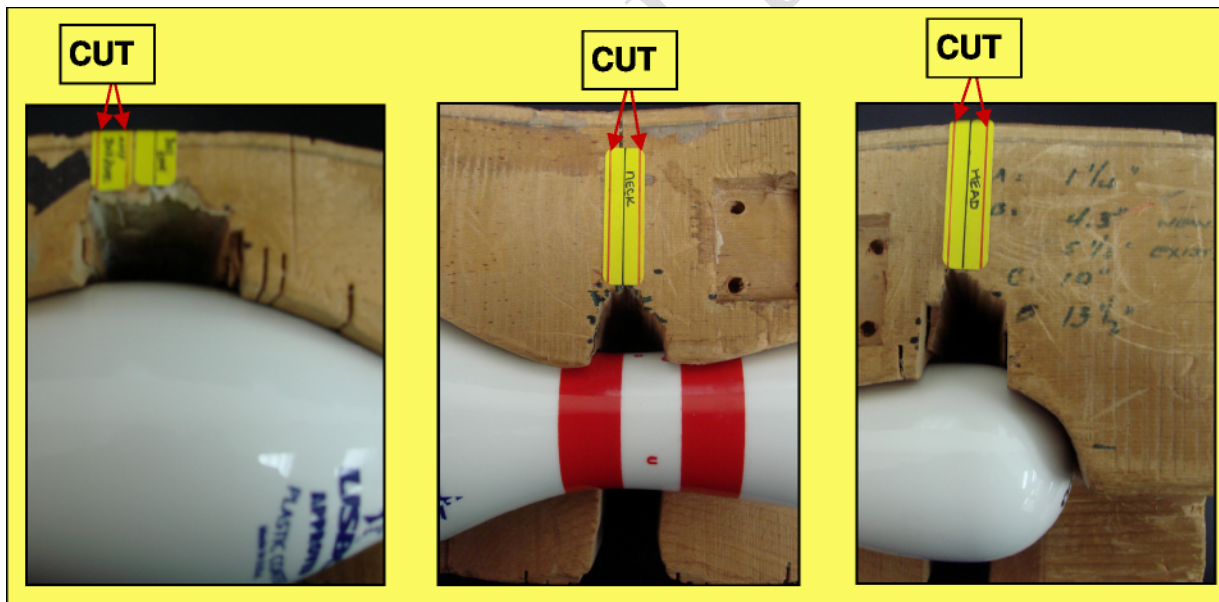

Figure 1 – The 3 slices that are cut using this side of the jig. The red lines indicate where the cuts are made to obtain slices of the bowling pin.
3. Set the jig so the labels for the head of the bowling pin, neck and ball zone are on the top. Cut the bowling pin on the band saw using the red lines as the designated cut lines to obtain the proper slices of the bowling pin. See figure 1 for a visual of the portions of a bowling pin in the cutting jig and the red lines that are used as cutting guides to obtain slices of the pin for analysis.